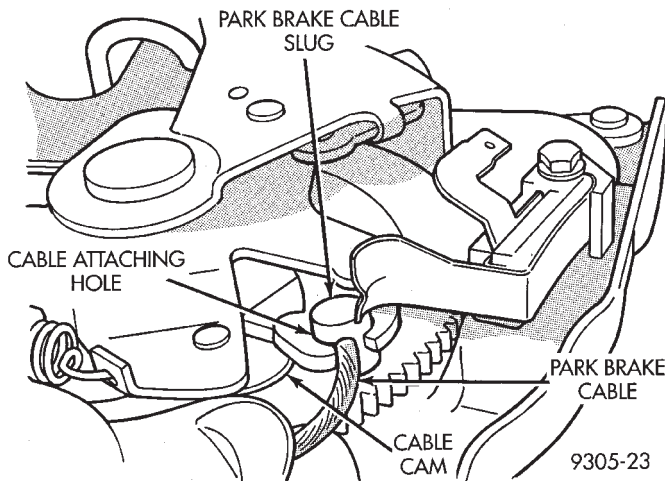

Fig. 19 Park Brake Cable Removal From Park Brake Mechanism
(7) After park brake pedal assembly is removed from vehicle body. Rotate park brake cable to align cable with notch in cable attaching hole on park brake pedal mechanism (Fig. 19). Lift lead slug of park brake cable, out of retaining hole in park brake mechanism, then remove park brake cable from park brake mechanism.